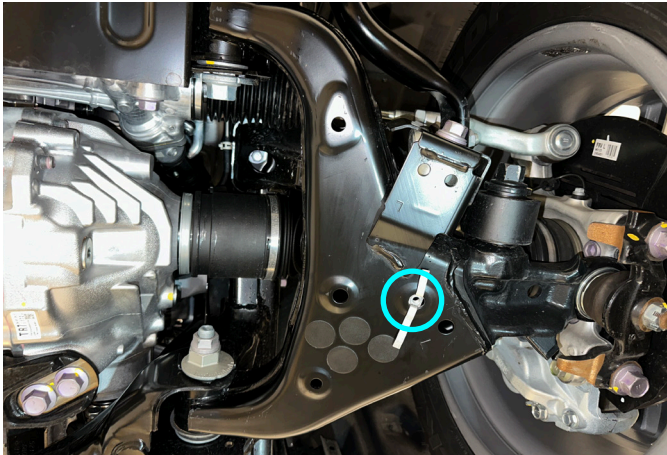

Fig. 1
1. Install insert nut M8 (item E), as shown in fig. 1.